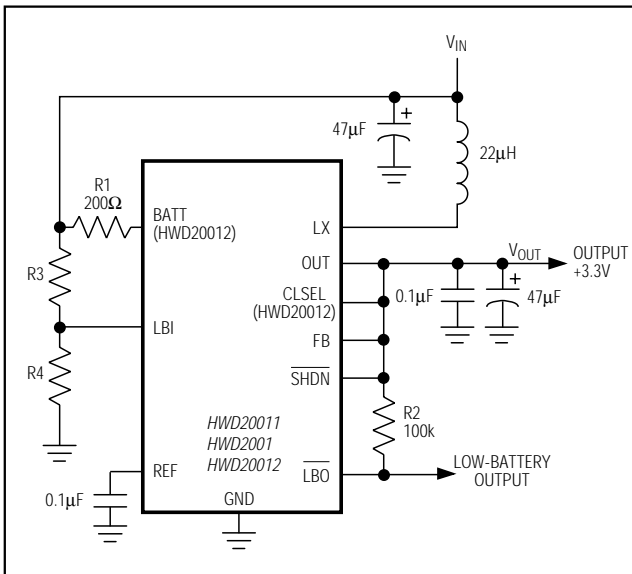

Figure 5. Preset Output Voltage of +3.3V
**Note 2:** Steady-state output current indicates that the device maintains output voltage regulation under load. See Figures 5 and 6.
$V_{OUT}$  can be set to 3.3V or 5.0V by connecting the FB pin to GND (5V) or OUT (3.3V) (Figures 5 and 6).
The HWD20011/HWD2001/HWD20012 contain an on-chip comparator for low-battery detection. If the voltage at LBI falls below the internal reference voltage (1.30V),  $\overline{LBO}$  (an open-drain output) sinks current to GND. The low-battery monitor threshold is set by two resistors, R3 and R4 (Figures 5, 6, and 7). Since the LBI current is less than 50nA, large resistor values ( $R4 \leq 260k\Omega$ ) can be used to minimize loading of the input supply. Calculate R3 using the following equation: